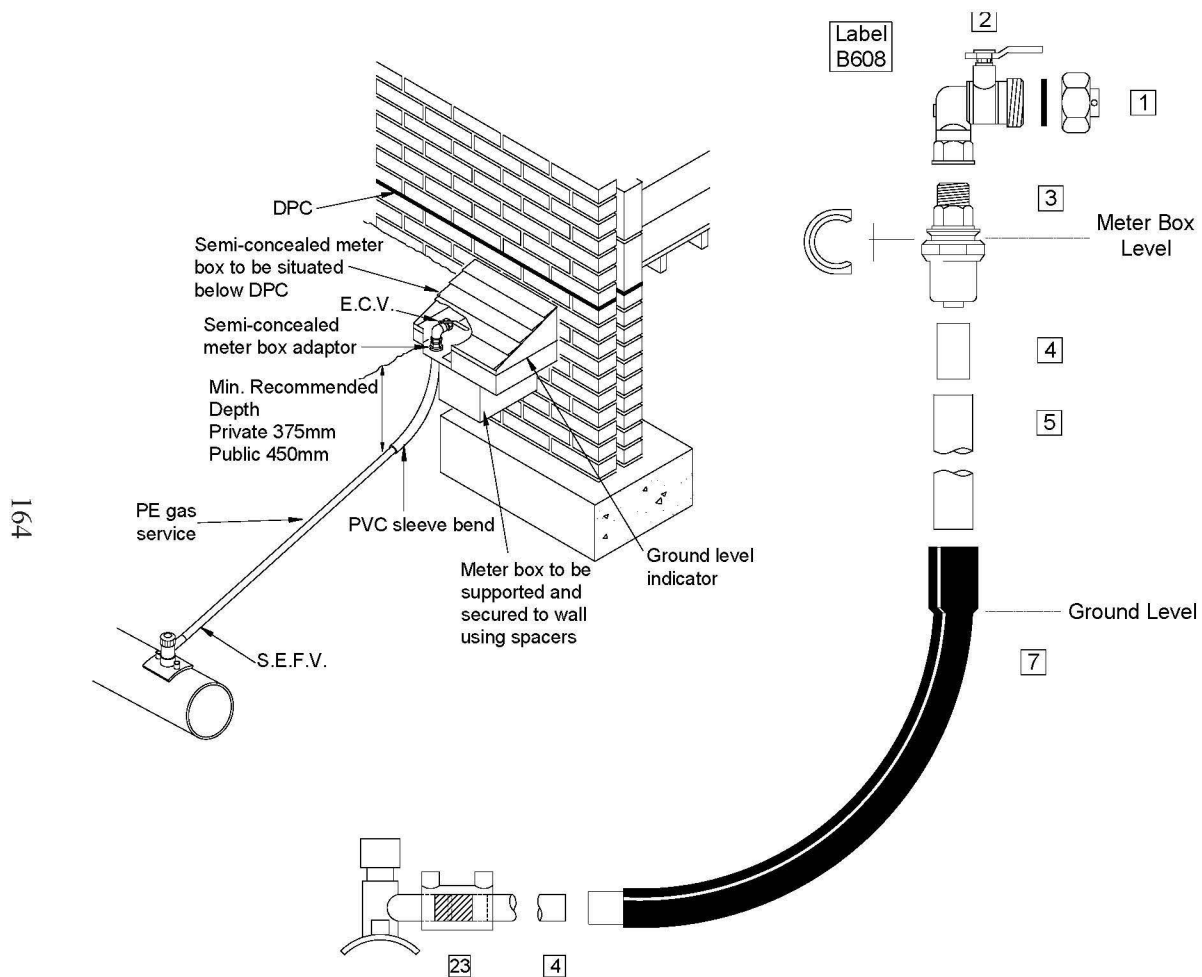

Figure D12 - MP PE service to semi concealed meter box
3. The tip of the relief vent pipe shall not be located closer than 1.0 m to any opening into a property and at least 1.5m away from any electrical equipment, in accordance with Figure D12.
1. Figure D12 shows the layout.